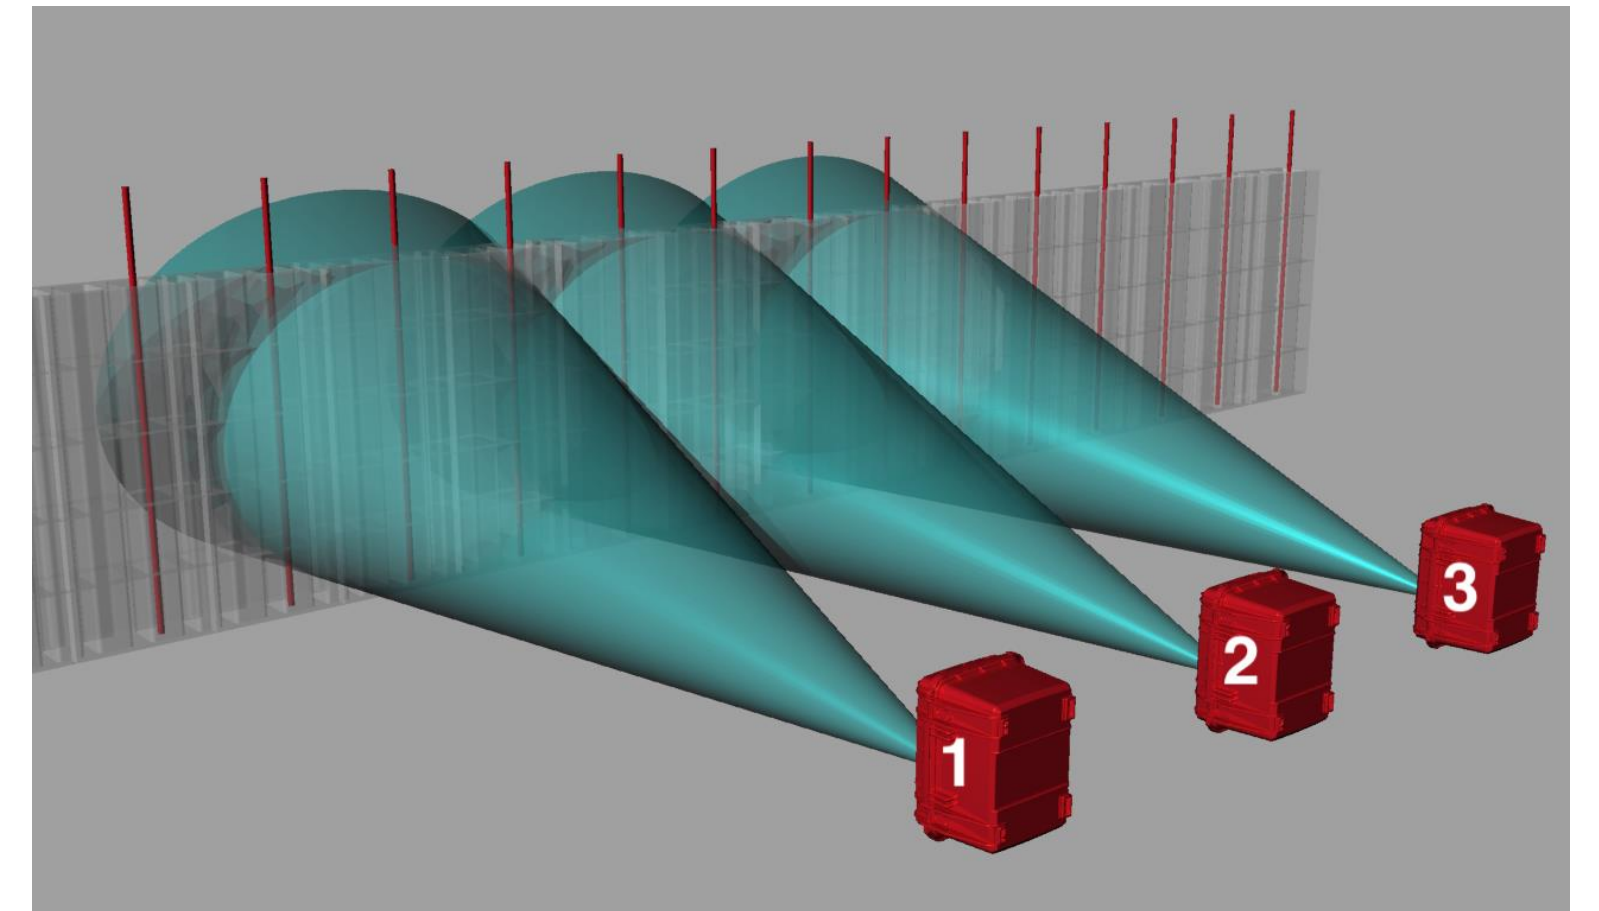

FIGURE 3-8 Shows the progression of scans and the direction while scanning a cinderblock wall with rebar.
From the point of your first scan you must move the unit in a straight line to the right or left approximately 2ft(50cm). *Figure 3-8* shows the order and direction of each of the three scans being conducted on a cinder block wall.
- Getting the signal to the targeted area is the primary goal. In *figures 3-8* and *3-9* we see the signal passing through the spaces between the metal rebar found in cinder block walls.